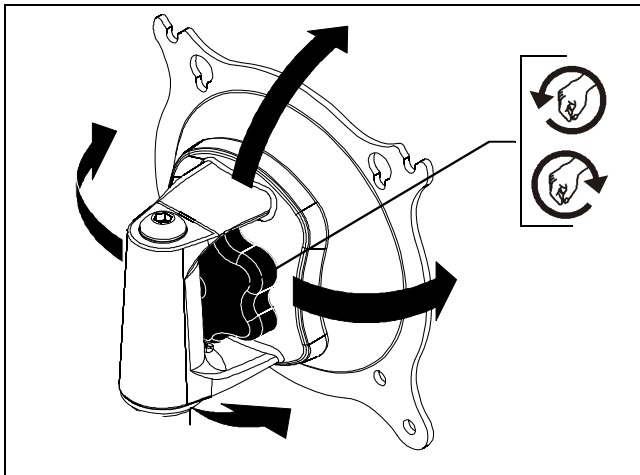

Figure 6
1. Turn adjustment knob, located on back of Centris Turntite head, clockwise to increase tension or counter-clockwise to decrease. (See Figure 6)